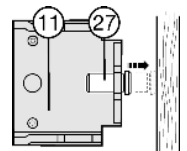

Fig. 14
- ▶ Bring adjusting screw Fig. 14 (27) in middle bearing support Fig. 14 (11) into abutment with the side wall of the unit.